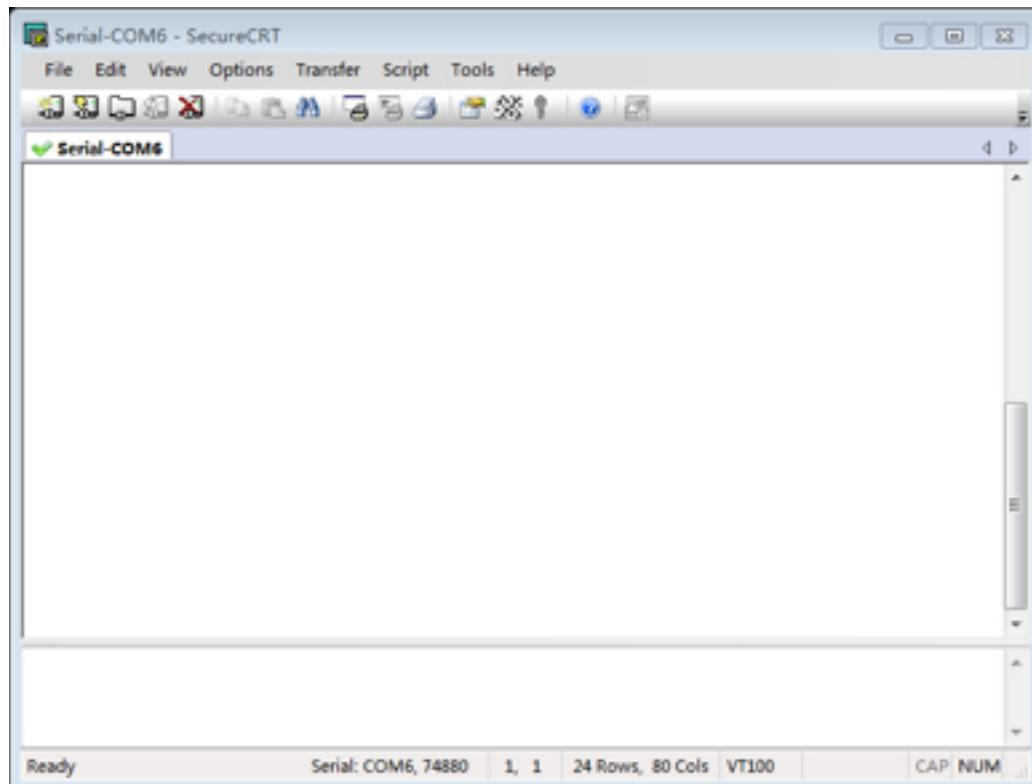

Figure 3-4. New Session of Serial-COM6
4. Click the “Connect” button. A new session of Serial-COM6 has been set up, as Figure 3-4 shows.